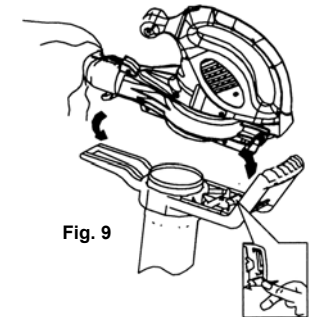

Fig. 9
2. Press on locking tab near handle to remove easy grip handle from motor. Angle motor to release hook from locking bar. (Fig. 9)